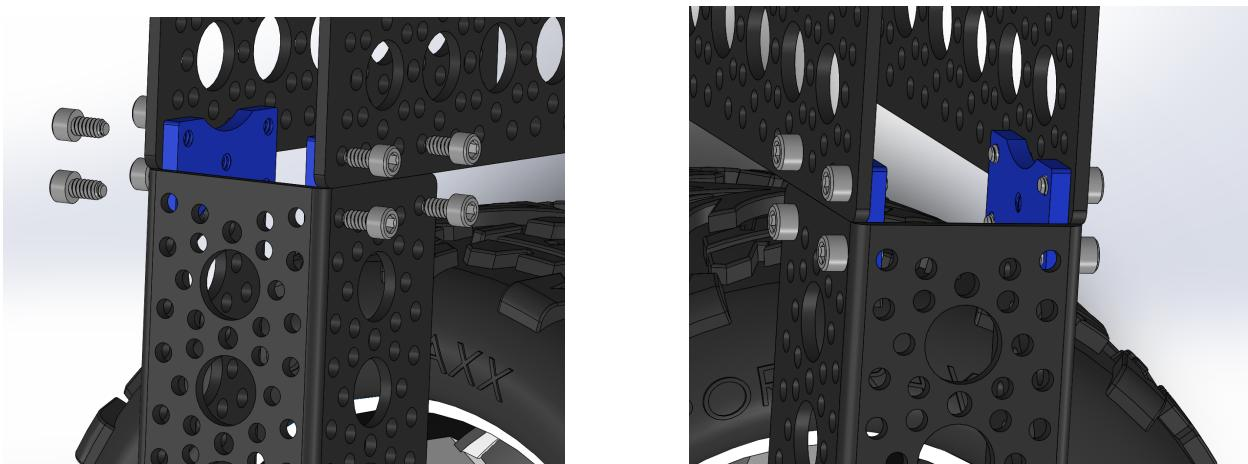

Figure 6: Corner Wheel Step 2
- 2. Channel Attachments 2:** Attach a 4.5 inch channel **S4** to the top of the 3 inch channel from the last step using two channel connectors **S6** and screws **B1** as shown in Figure 6.